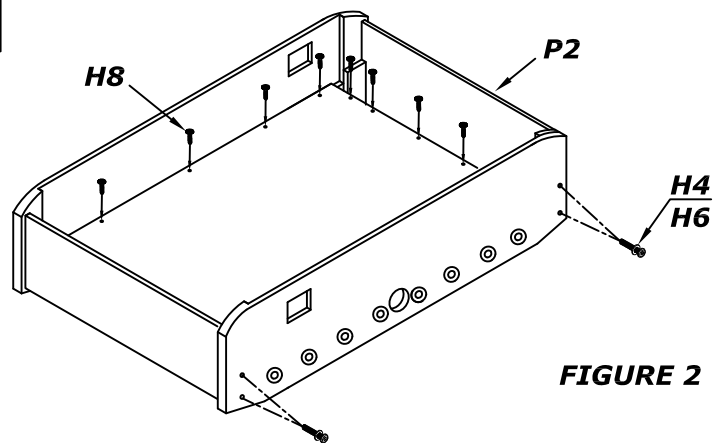

FIGURE 2
2. ATTACH THE TWO END PANELS **P2** TO THE SIDE PANELS **P1** AS SHOWN IN **figure 2**. REMEMBER: THE GROOVE MUST FACE INWARD TOWARD THE PLAY FIELD. ATTACH THE END PANELS WITH BOLTS **H4** AND WASHERS **H6**.
3. ATTACH PLAY FIELD WITH SCREWS **H8** IN THE END AND SIDE PANELS AS SHOWN IN **figure 2**.